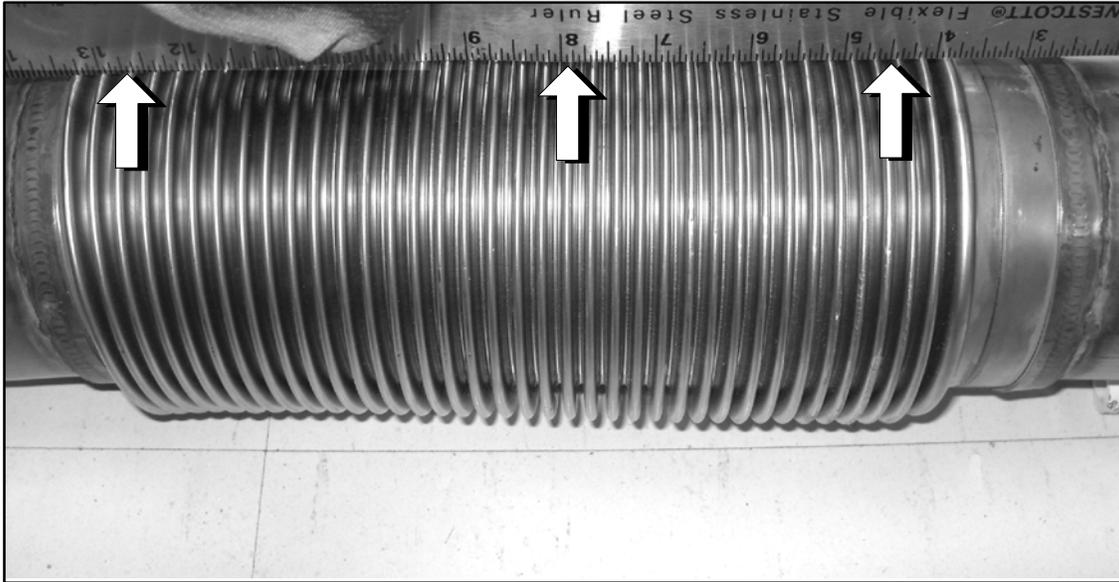

Figure 4.
3. *the bellows pipe has a gap of more than 0.250 inch between a straight edge and the bellows due to permanent deformation, when a straight edge is positioned over the bellows at multiple positions around the circumference (refer to Figure 4).*